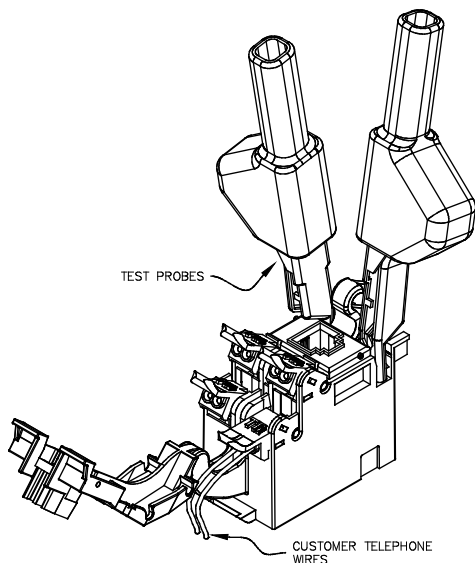

Figure 8
3. Using an ohmmeter, insert test clips into test ports as shown (See Figure 8).